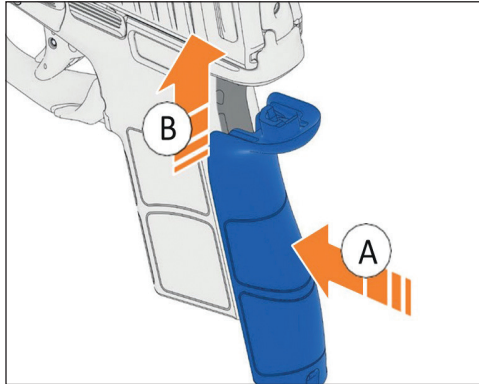

Figure 33 – Slide backstrap into guides
1. Place backstrap from the rear onto the guides on the frame and push upwards (Fig. 33).